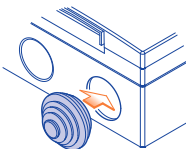

Fig. 3
- Drill holes for the glands at the desired spot. If the gland that comes with the enclosure is used, the diameter of the opening must be as a weakened part on the box. Simply press gland into the hole (Fig.3) and set it not to be deformed from the inside.